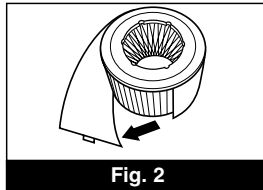

Fig. 2
**Step 5:** Locate the seam of the pre-filter and carefully separate the fastener to remove the pre-filter from the HEPA filter (Fig. 2).